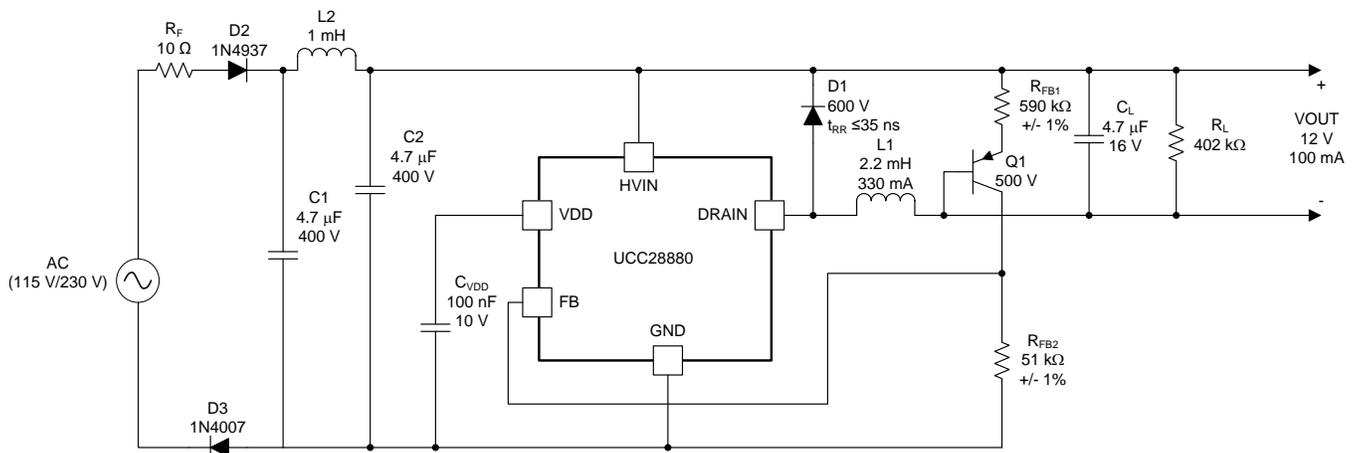

Figure 16. Universal Input, 12-V, 100-mA Output Low-Side Buck
Figure 16 shows a typical application example of a non-isolated power supply, where the UCC28880 is connected in a low-side buck configuration having an output voltage that is negative with respect to the positive input voltage (VIN+). The output voltage is set to 12 V in this example, but can easily be changed by changing the value of RFB1. This application can be used for a wide variety of household appliances and automation, or any other applications where mains isolation is not required.
- $C_{BULK(\min)}$  is minimum value for the total input capacitor value (C1 + C2 in the schematic of Figure 16).